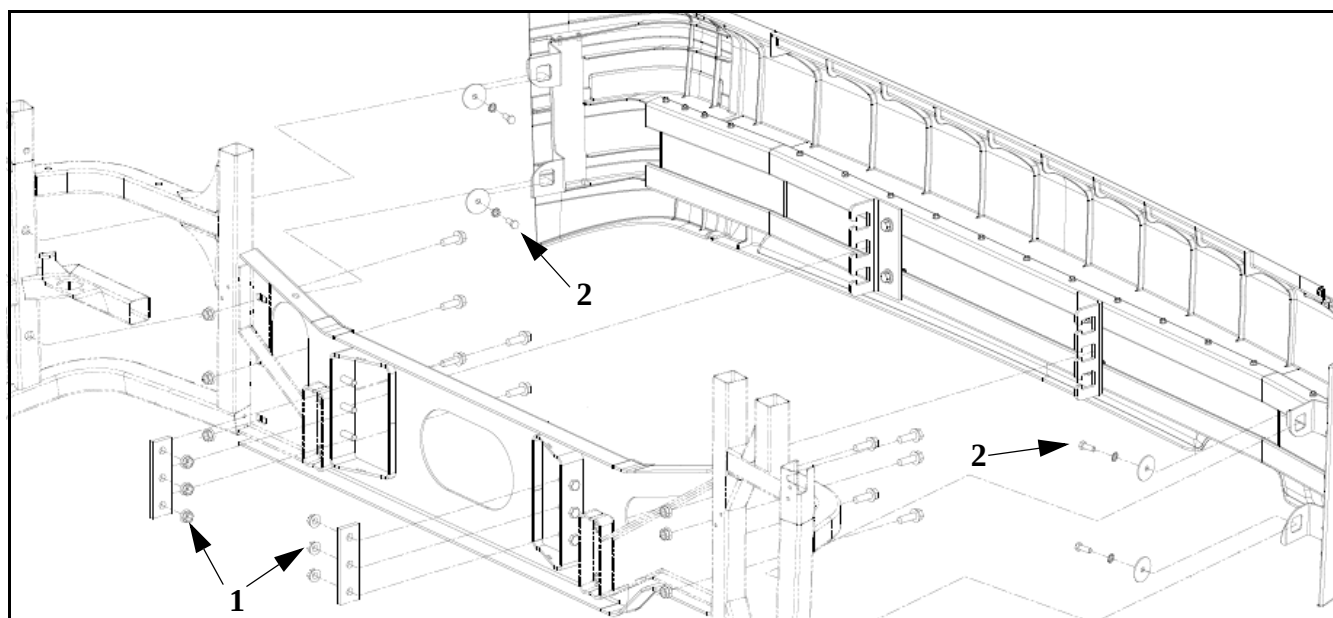

Figure 19. Bumper installation to coach frame.
49. Align the side bumpers to follow the fender edge. Tighten the two (2) bolts to secure position. Torque to 18-22 ft-lbs. (refer to Figure 19). Repeat to the opposite side of the coach.
50. Torque the six (6) center bolts to 100-123 ft-lbs. (refer to Figure 19).
Item	Figure 19 Description